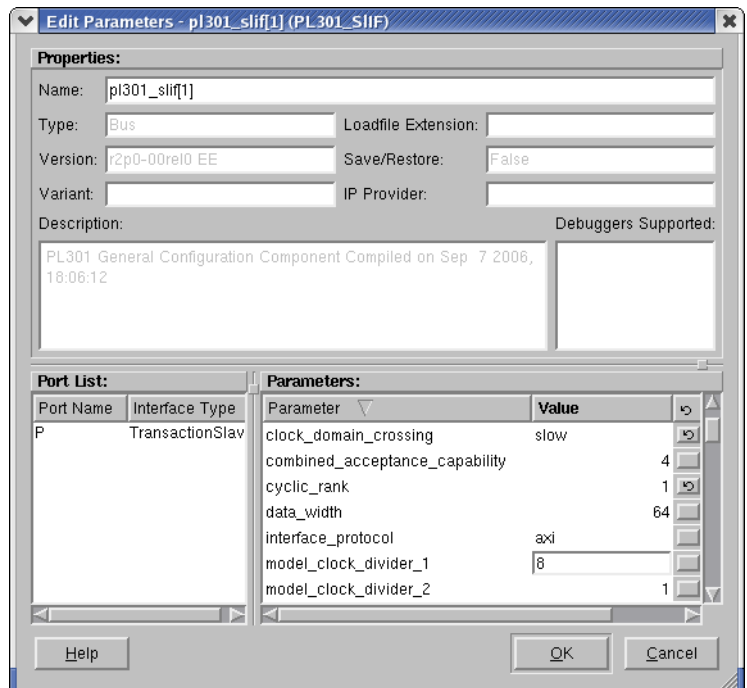

Figure 4-32 Clock domain crossing for slave 1
3. Enter 8 in the model_clock_divider_1 parameter field, as Figure 4-32 shows.